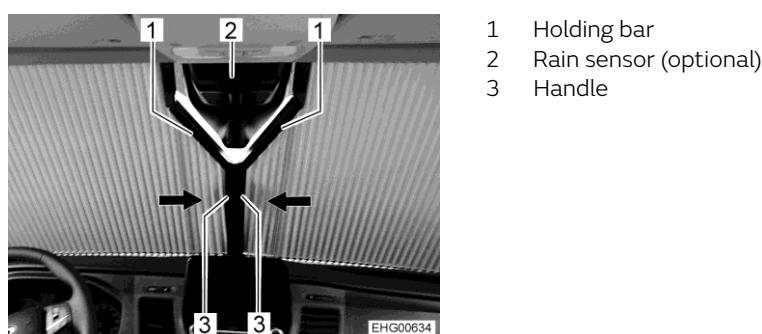

Fig. 19 Windscreen with folding blinds
- Pull both folding blinds of the windscreen by the handle (Fig. 19,3) to the centre (as far as they will go). Magnetic catches keep the folding blinds closed.
- Push both folding blinds of the windscreen outwards by the handle (Fig. 19,3) until the holding bar (Fig. 19,1) engages completely in its holder.
The shade of the windscreen has a y-shaped cut-out for the rain sensor (Fig. 19,2) of the vehicle.